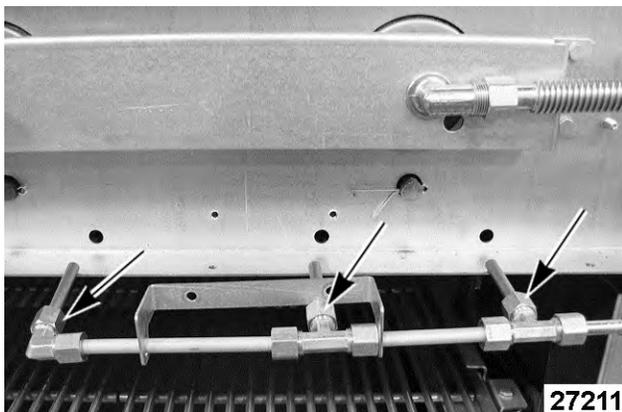

Fig. 9
- Pull the pilot tube assembly Fig. 9 away from broiler. There are 3 pilot tubes on each assembly.
- Disconnect compression nut Fig. 9 from the pilot tube fitting and remove the tube.